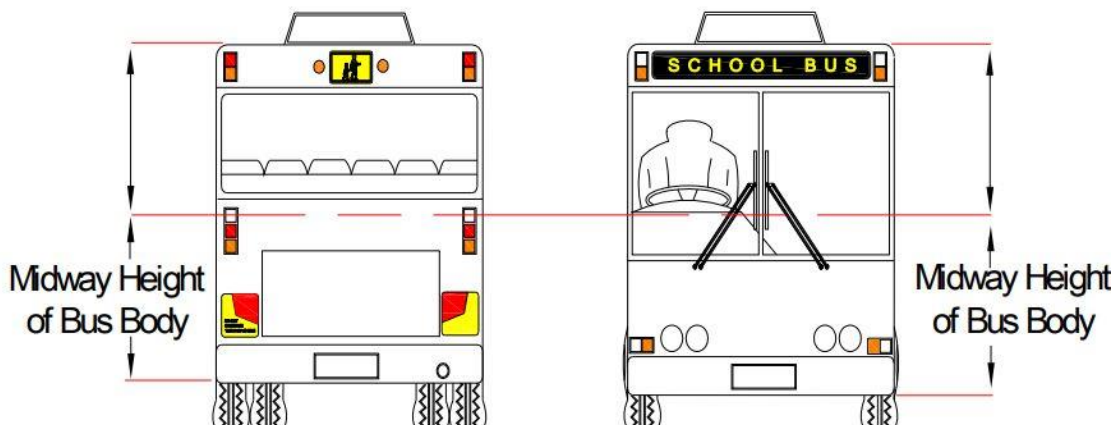

Figure 6 - Midway height of a bus
- be installed above the midway height (*Figure 6*) between the highest and the lowest points on the bus; and,
- above the midway height (*Figure 6*) between the highest and lowest point of the bus body.